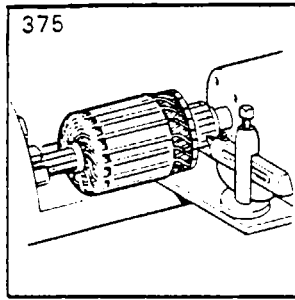

Figure 10-28. Turning Starting Motor Commutator
a. Check the commutator for uneven wear, excessive glazing or evidence of excessive arcing. If only slightly dirty, glazed or discolored, the commutator can be cleaned with 00 or 000 sandpaper. If the commutator is rough or worn, it should be turned in a lathe. Refer to Figure 10-28. The armature shaft should be inspected for rough bearing surfaces and rough or damaged splines.